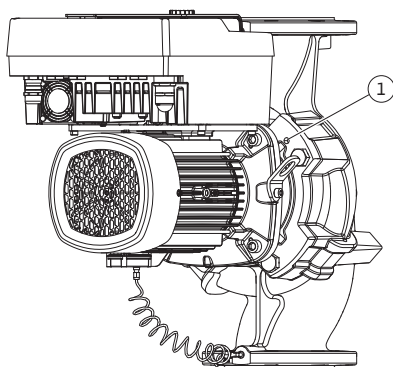

Fig. 11: Pushing off the motor impeller unit via threaded holes (depending on pump type)
5. Detach the motor impeller unit (see Fig. 4) from the pump housing. Depending on the pump type (see Fig. I to III), there are different ways to do this. For the pump type Fig. I loosen the screws (Item 29). Push the motor impeller unit off the pump housing. For pump type Fig. II and Fig. III use the two threaded holes (Fig. 11, Item 1). Use suitable screws provided on-site (e.g. M10 x 25 mm) for this.
5. Press the motor impeller unit (see Fig. 4) off the pump housing. Use the two threaded holes for this (see Fig. 11). Screw M10 screws with a suitable length into the threaded holes to loosen the seat.